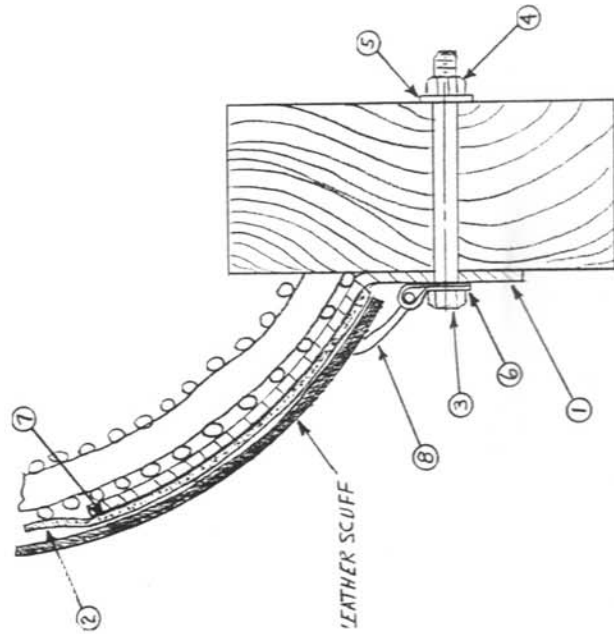

Figure 3
Step 3: Clamp plate in place and drill four E size holes (.25). Assemble bolt and hardware as shown in Figure 3.
Step 4: Replace scuff pad and re-lace leather through item 6. Splice in item 8 at each side of plate with square knot and safety knots.